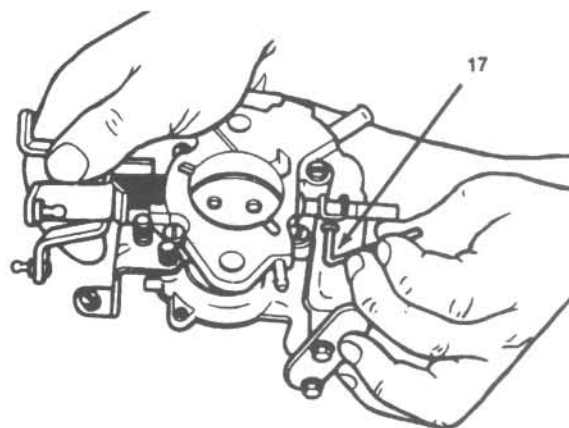

Fig. 4.74 Use an Allen wrench to loosen the throttle shaft arm screw (17)
- 11 Loosen the throttle shaft arm screw with an Allen wrench and remove the arm and pump connector link as shown in Fig. 4.74.